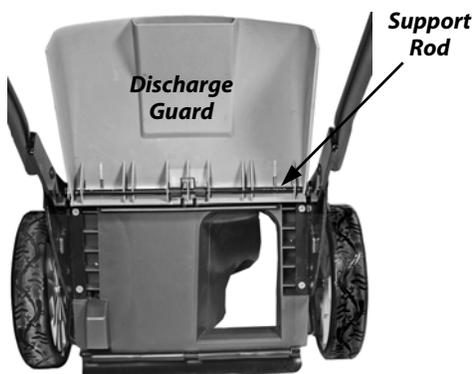

Figure 15
1. Raise the Discharge Guard on your Mower (**Figure 15**) and note the metal Support Rod at the rear of the Mower.